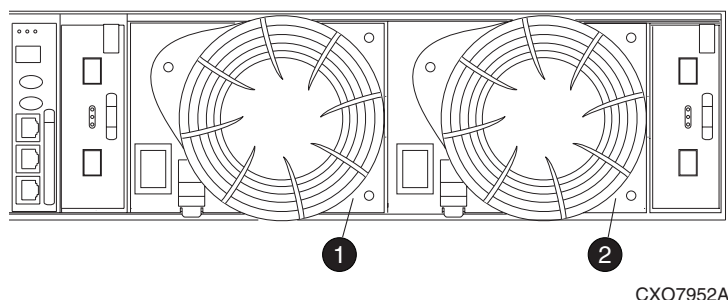

Figure 65: Power supply element numbering
0.2.	Power Supplies (see Figure 65 on page 167)
Figure 65 shows the location of power supply 1 ❶, and power supply 2 ❷.